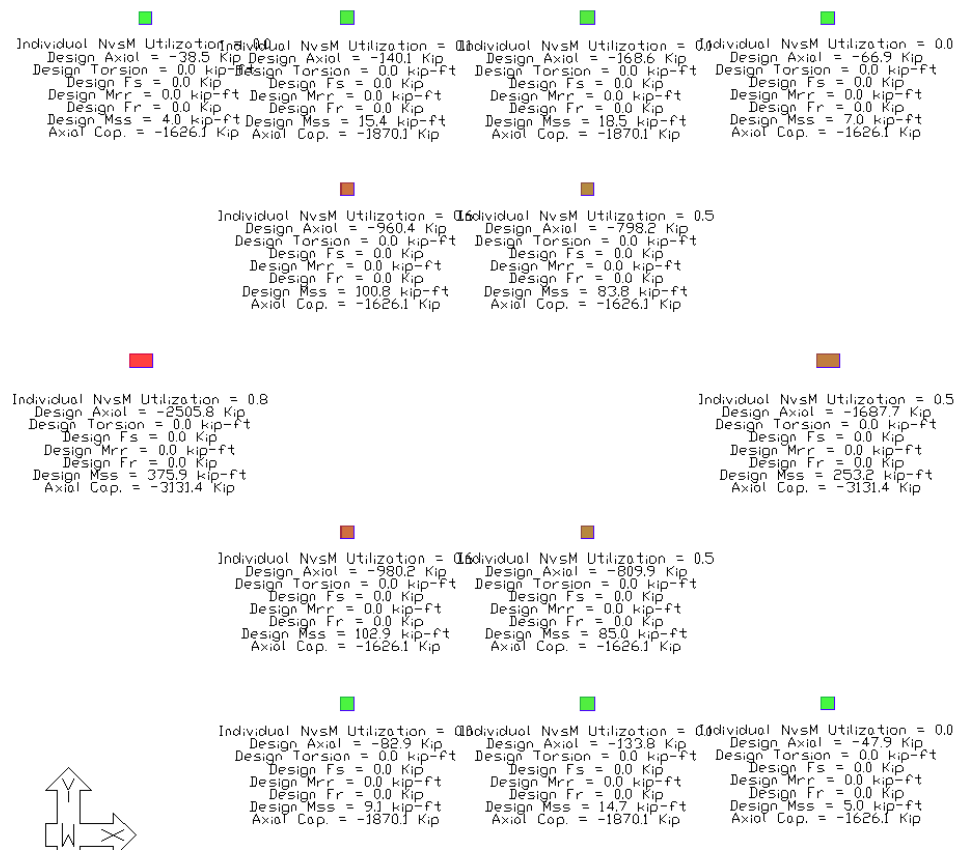

Figure 2-29 Individual Column NvsM utilization, Design Loads, Axial Capacity
- Now, the user can see color coded utilization values (because N vs M results are still selected) of each column below Level 4, as well as axial capacity of each column and associated Design loads. See **FIGURE 2-29**.